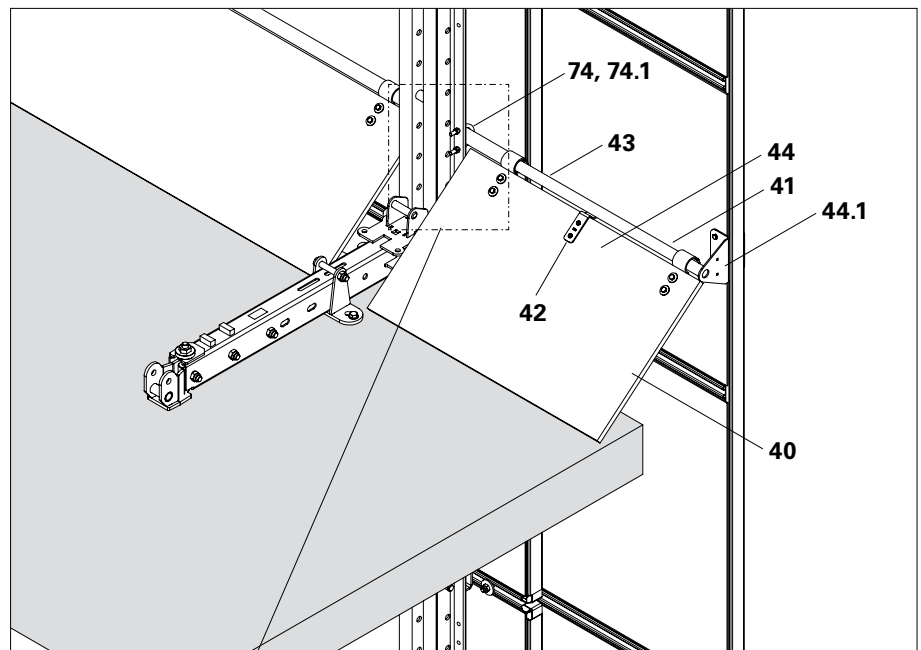

Fig. B2.10
In order to prevent unintentional detachment, install a flap safety device (42) in the centre. (Fig. B2.10 + B2.11)